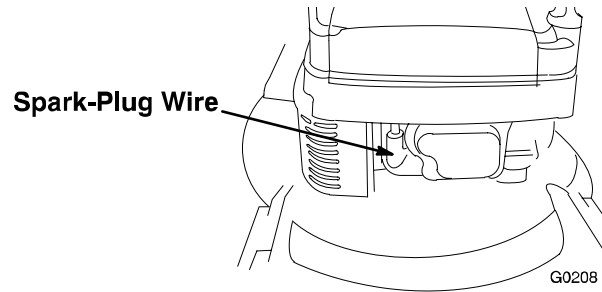

Figure 14
1. Connect the wire to the spark plug (For Honda Units: See Figure 12, For Kawasaki Units: See Figure 14).